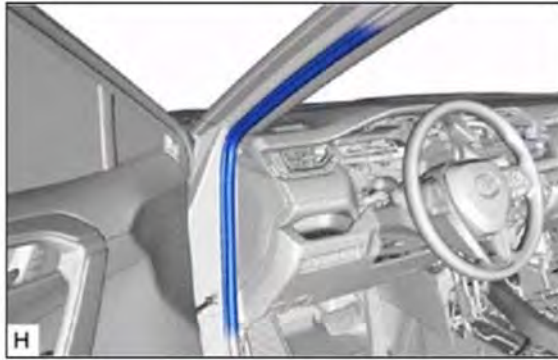

Figure 10
- (a) Remove the front door opening trim weatherstrip LH along the A-pillar. Figure 10.